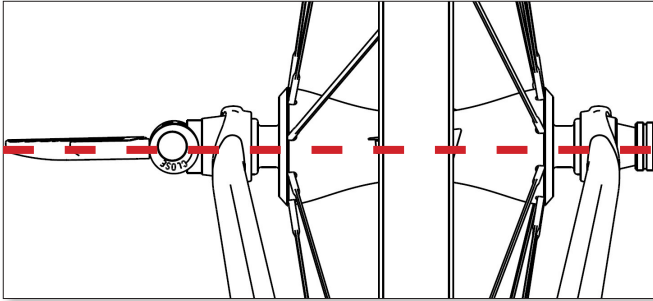

Figure 4
- Turn the lever so that it is parallel with the wheel's axle (**Figure 4**).